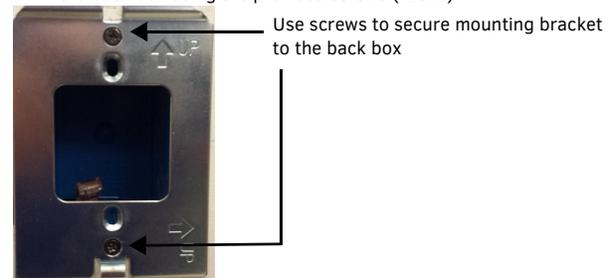

FIG. 2 SECURE THE METAL BRACKET TO THE BACK BOX
2. Once the back box is installed and secured, secure the metal mounting bracket to the back box using the provided screws (FIG. 2).